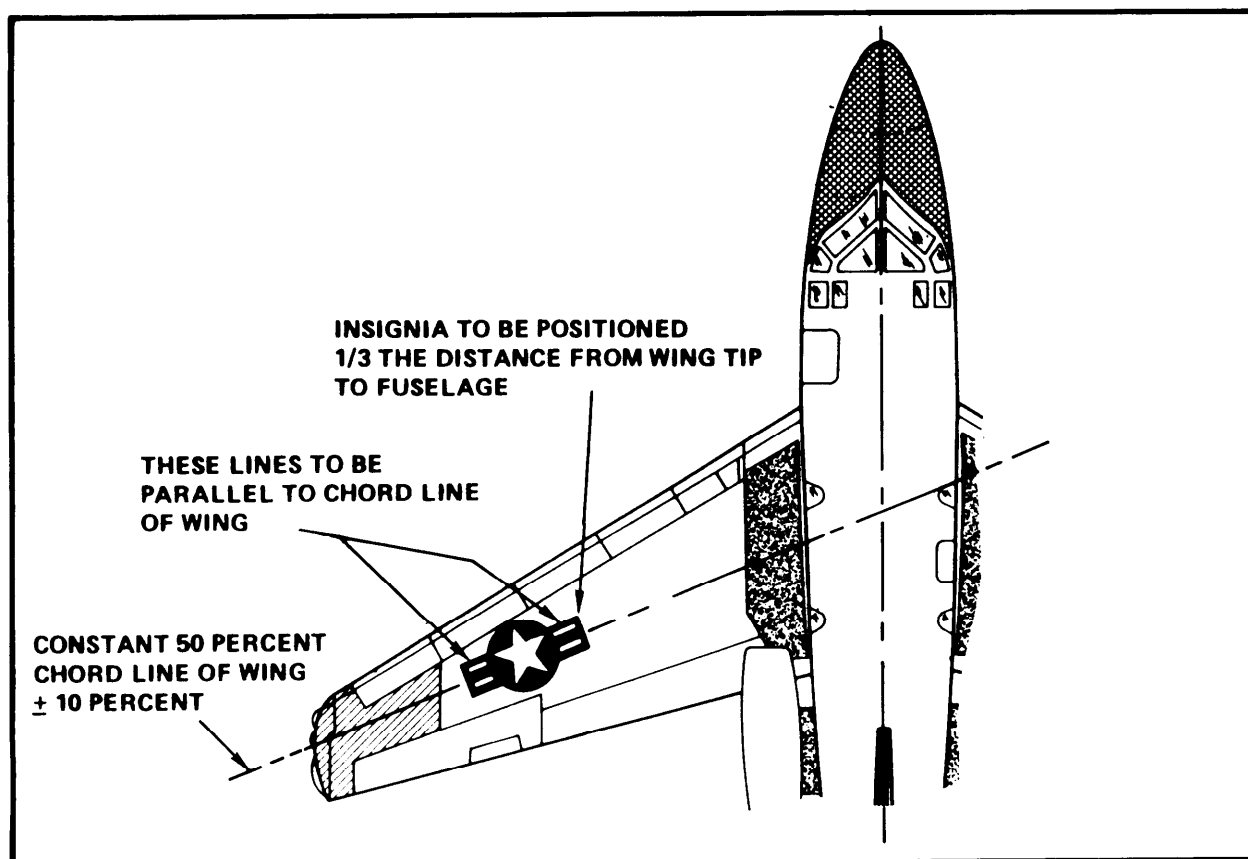

FIGURE A-2. National star insignia on swept wing aircraft.
40.1.1.3 Application. Application of the national insignia by painting shall be in accordance with MIL-F-18264. When applying the national insignia by painting, a stencil shall be used to produce a sharp outline. The insignia shall be applied with coatings compatible with the finish applied to adjacent surfaces. Decals may be used in lieu of paint for application of the national insignia (see 40.1.5). The national insignia shall be so applied on horizontal surfaces that, in the normal flight attitude of the aircraft, the top star point of the insignia points forward, and a line through that point and the star's center is parallel to the line of flight, except for the swept wing or variable sweep wing configurations. On these aircraft, the national insignia shall be placed so that it will not extend onto flaps, slats, or control surfaces (see figure A-2). The constant 50 percent chord line of the wing which passes through the center of the star. For fuselage application, the insignia shall be placed so that the top star point points upward, and a line through that point and the star's center is perpendicular to the line of flight.